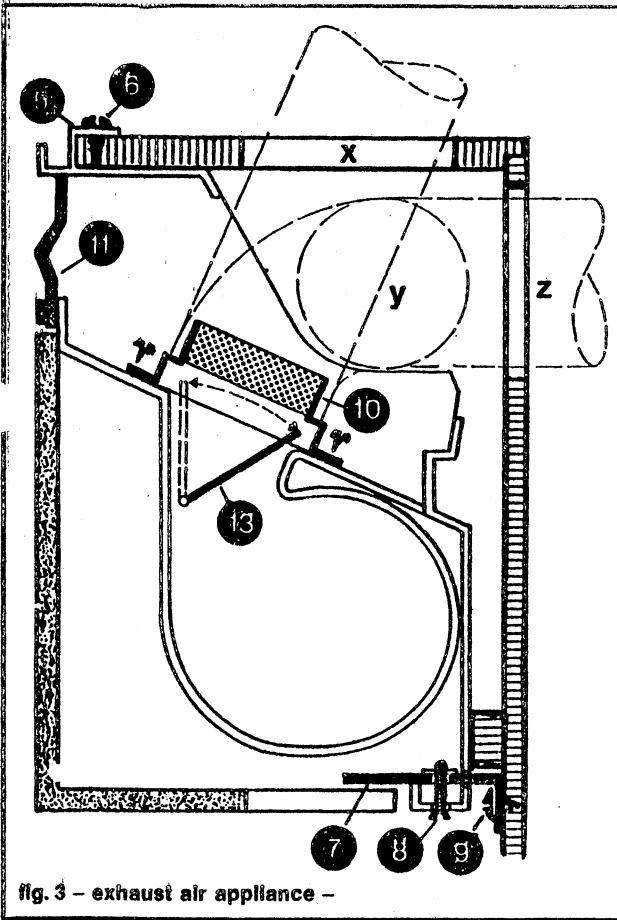

fig. 3 - exhaust air appliance -
1. Exhaust air appliance (as supplied by the manufacturer) – fig. 3 –